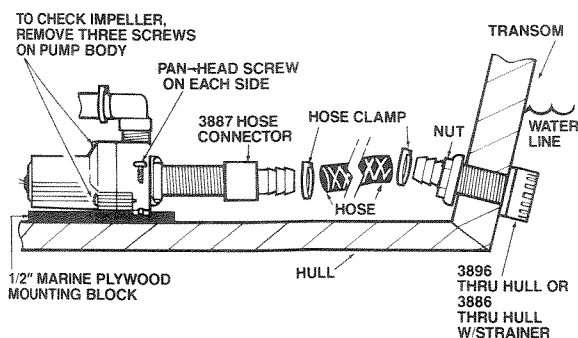

FIGURE 3
- With the boat out of the water, select a location at least 2" below the water line at the transom to install the thru-hull connector (Attwood part numbers 3873, 3873A, 3877, 3886, or 3896). (See Figure 3) Pump chamber must be below water level.
- Mount the pump to this plywood block or wedge by drilling 1/8" pilot holes at the location of the two mounting feet. **DO NOT DRILL THROUGH BOAT BOTTOM.** Make sure pump is horizontal and pump outlet is pointed straight up (see Figure 3).
- Install Attwood hose connector (part number 3887) to the intake of the pump (see Figure 3).